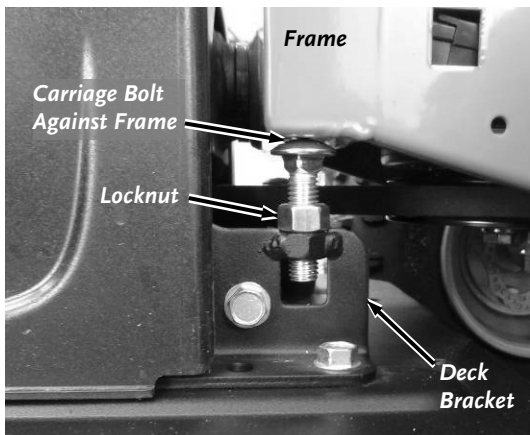

Figure 22
1. Loosen both Locknuts using a 3/4" Wrench as you hold the square portion of the Carriage Bolts using a 1/2" Wrench (**Figure 22**).